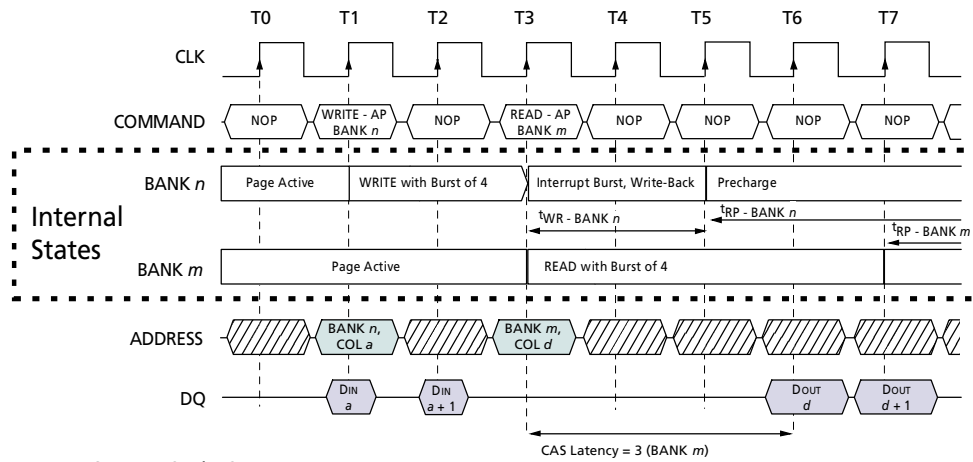

Figure 26
3. Interrupted by a READ (with or without auto precharge): A READ to bank *m* will interrupt a WRITE on bank *n* when registered, with the data-out appearing CAS latency later. The PRECHARGE to bank *n* will begin after t^{WR} is met, where t^{WR} begins when the READ to bank *m* is registered. The last valid WRITE to bank *n* will be data-in registered one clock prior to the READ to bank *m* (Figure 26).